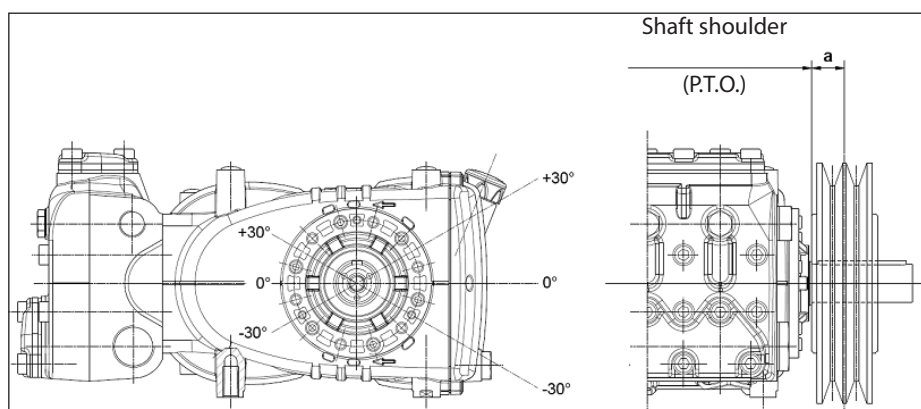

Fig. 10
- b) Use high performance belts – for example **XPB** instead of **SPB** – as a lower quantity of belts for the same transmitted power may be necessary and a consequent shorter resulting distance compared to the shaft shoulder (P.T.O.) "a" of Fig. 10.